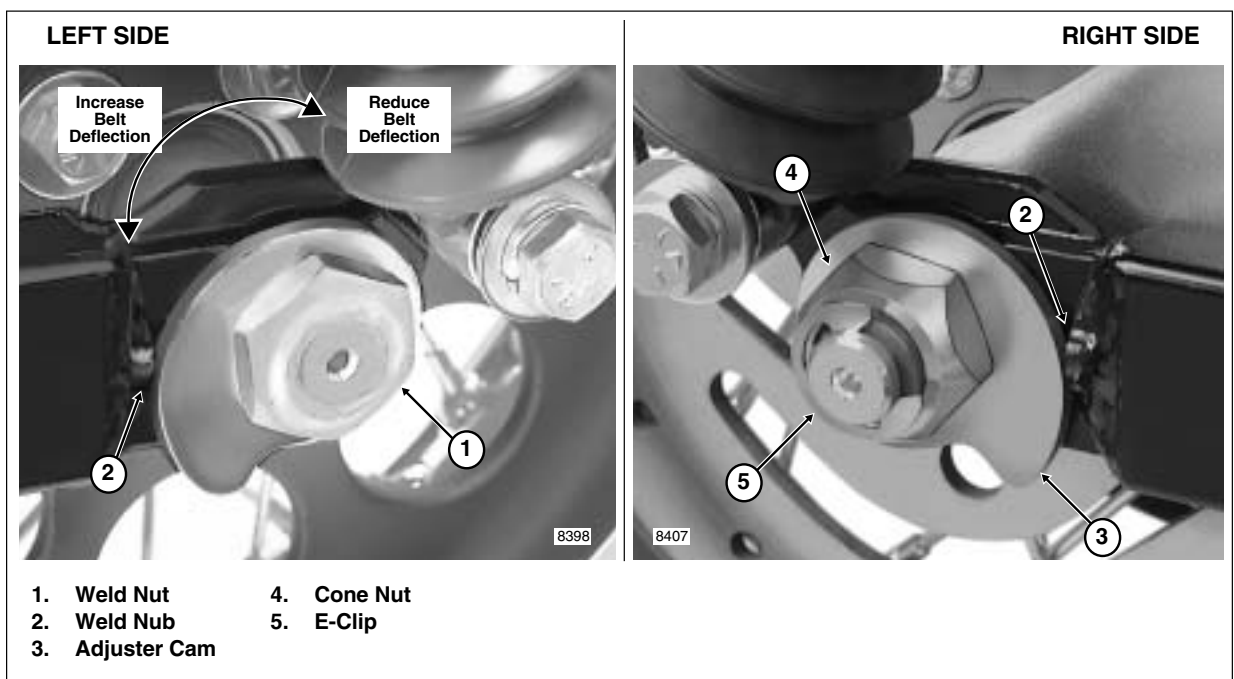

Figure 1-16. Move Rear Wheel Forward Until Adjuster Cams Just Contact Weld Nubs
- a. Loosen cone nut, and then snug to 15-20 ft-lbs (20-27 Nm). See Figure 1-16.
- c. Push wheel forward slightly so that adjuster cam just contacts weld nub on both sides of rear swing-arm. See Figure 1-16.